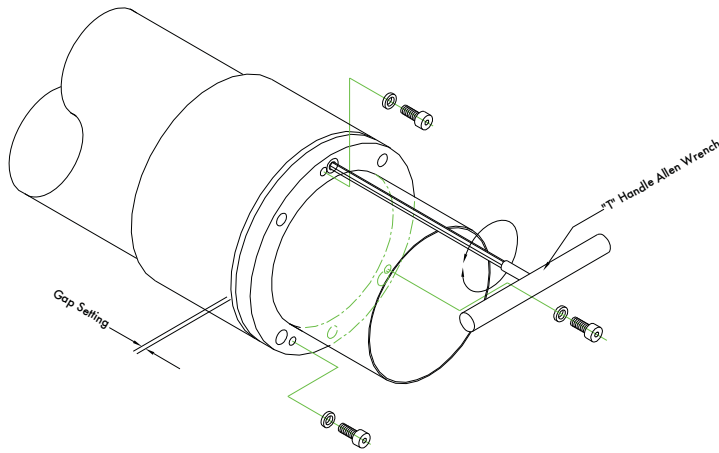
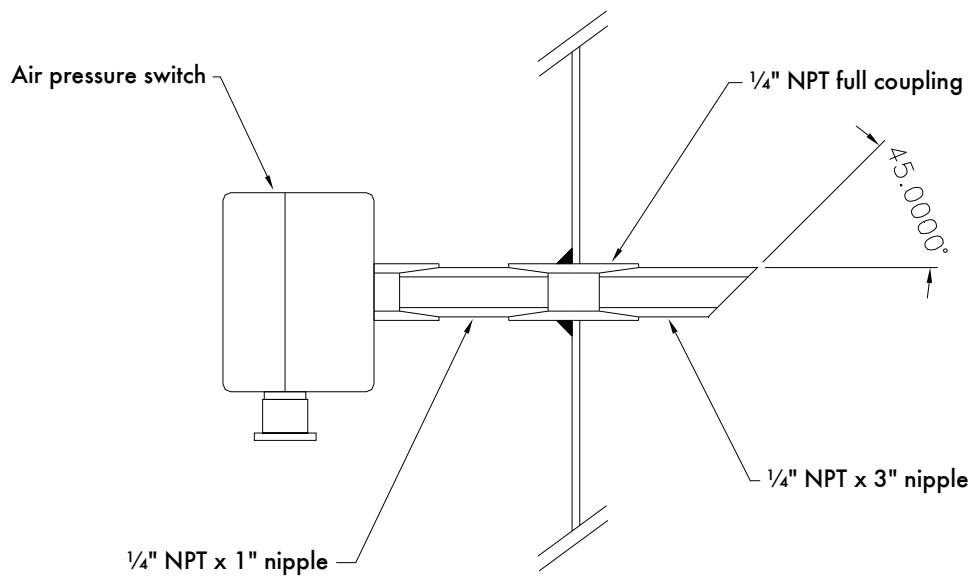
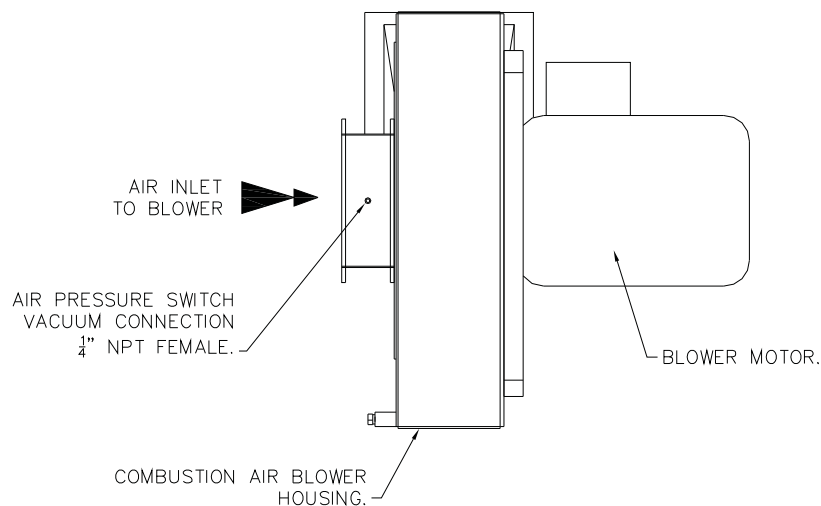

Figure 5: Gas Adjustment
Figure 4: Air pressure switch detail (high pressure connection)
Figure 5: Air pressure switch detail (low pressure connection)
Step 1: If the burner is equipped with a proven gas pilot (Lc21-310), the pilot injector disc must be removed. Loosen set screw to allow for removal of the pilot injector disc assembly (figure 4).
Step 2: Remove 3 ea. Diffuser fastening screws (item 7) and diffuser stand off pillars (item 5).
Step 3: Loosen 3 ea. Jam screw/washer (item 4) on the orifice plate.
Step 4: To DECREASE the gap setting, rotate the gap adjusting screw (item 3) clockwise as illustrated in Figure 5 on the next page. To INCREASE the gap, rotate counter-clockwise. Using a measuring scale or gap gauge, adjust all three screws so that the gap setting is equally maintained around the circumference of the assembly. The orifice plate is free to slide along the primary air tube (item 1).
After installing the blower and transition duct to the burner, the air pressure proving switch should be installed as per figure 4 into the 1/4" NPT nipple factory welded into the air transitional duct which is located between the blower and the burner. If the air inlet transition is supplied by those other than Limpfield Combustion, a 1/4" NPT full coupling should be fully welded through the transition wrapper 3" back from the burner connection flange and along the center line on the width of the duct so that 2 off 1/4" NPT pipe nipples (schedule 40) can be fitted to either end one for the air pressure switch to be mounted to and the other 1/4" nipple to be Beveled as shown in figure 4 above to an angle of 45 degree angle and then positioned in-line with the airflow stream. The low pressure sensing line (vacuum connection of a differential pressure switch) should be connected before the high pressure side of the combustion air blower i.e. the vacuum side, this connection will be a 1/4" NPT connection on the inlet spigot to the combustion air blower as shown in figure 5 below with suitable piping to meet local codes.